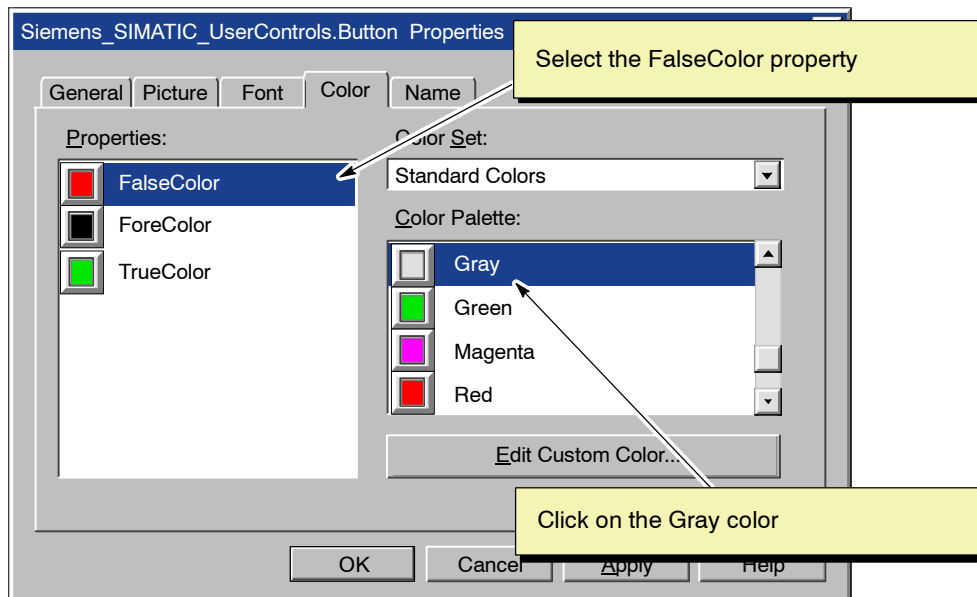

Figure 3-19 Configuring the False Color for Button1 (Button control 1)
8. Select (click on) FalseColor in the Properties box and click on the color Gray in the "Color Palette" box. See Figure 3-19.